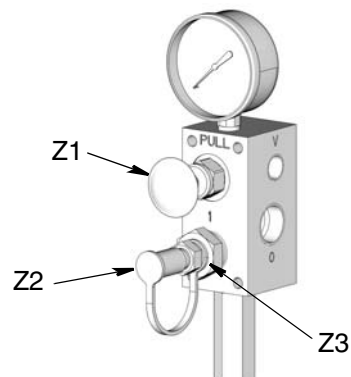
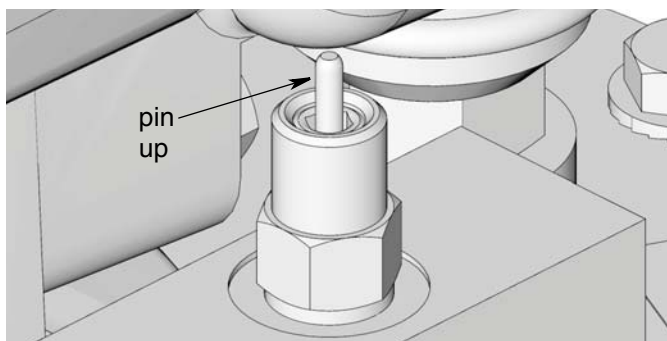

FIG. 17
FIG. 19
- Remove yellow dust cover (Z2) from fill coupler (Z3) (FIG. 17).
- Connect refilling line (AA) between the remote filling stations pump (P) and fill coupler (Z3) port marked with an "1" (FIG. 17).
- Start remote filling station pump (P).
- When reservoir (K) is filled:
- the Remote filling station pump (P) stalls (dead-heads),
- Auto-Fill Shut Off (S) pin pops up see FIG. 19,